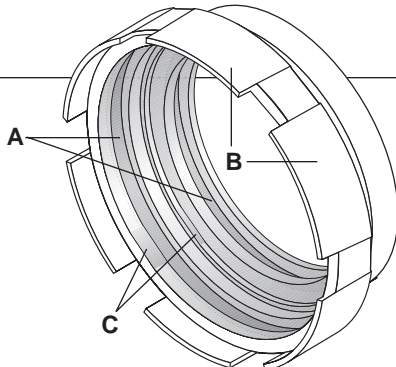

Figure 5
3.5 Rotor Carrier (14) (Figure 5)